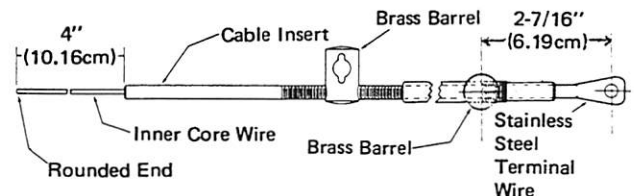

Figure 2. C-34555A\_ Remote Control Cable
4. Pull core wire until distance from centerline of hole in steel terminal end and centerline of brass barrel measures exactly 2-7/16" (6.19cm). (Figure 2)
5. Measure exactly 4" (10.16cm) from end of cable insert and cut off excess core wire. (Figure 2)